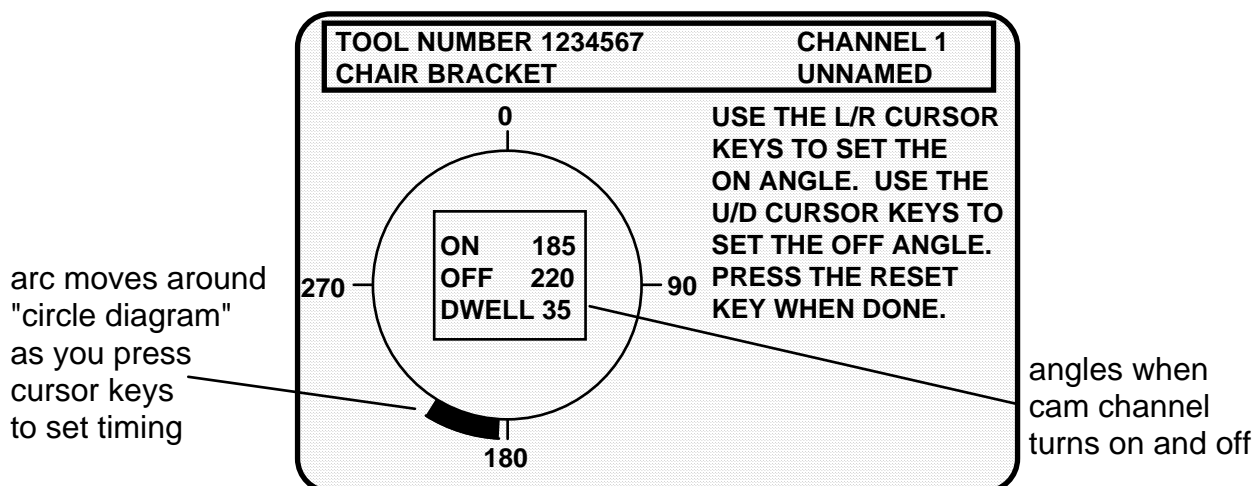

Figure 5-21. Illustrating programmed channel 1 "part blow-off"
2. You see a display (similar to Figure 5-21) which includes information about the tool and cam channel. Notice also the circle diagram on the display.